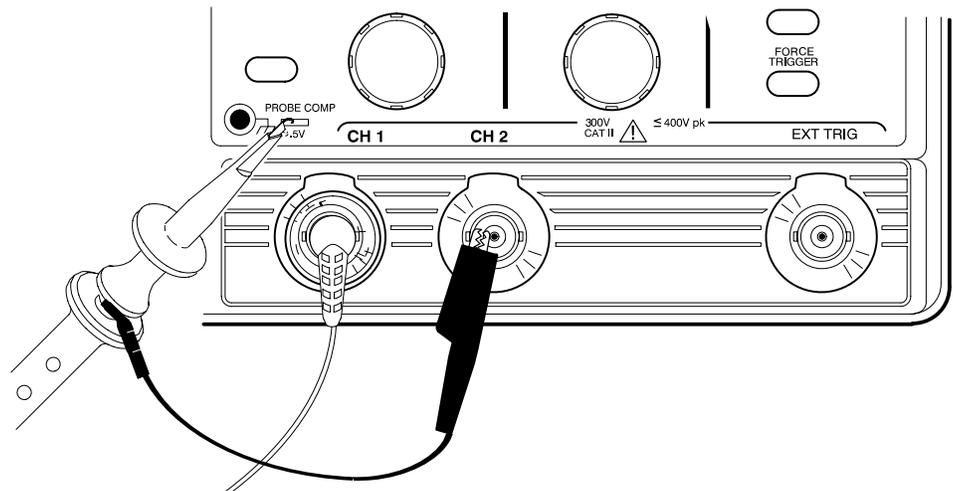

Figure 2-4: Probe compensation setup
1. Attach the probe BNC connector to the CH 1 input and attach the probe tip to the PROBE COMP output signal as shown in Figure 2-4. Attach the probe ground clip to the outer ring of the CH 2 BNC.